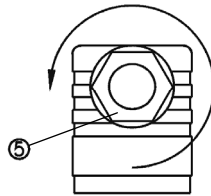

Fig. 3
- Loosen the screw connection PG 9 (pos. 5, Fig. 3).